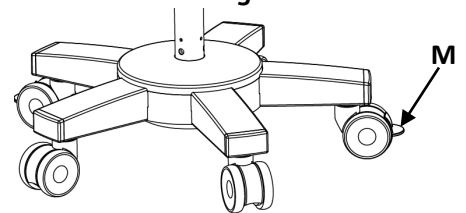

Fig. 43
Locks the stand from unwanted movement by pressing down the two brakes provided on caster wheels. To unlock press upper portion of brake. See (M) Fig. 43.